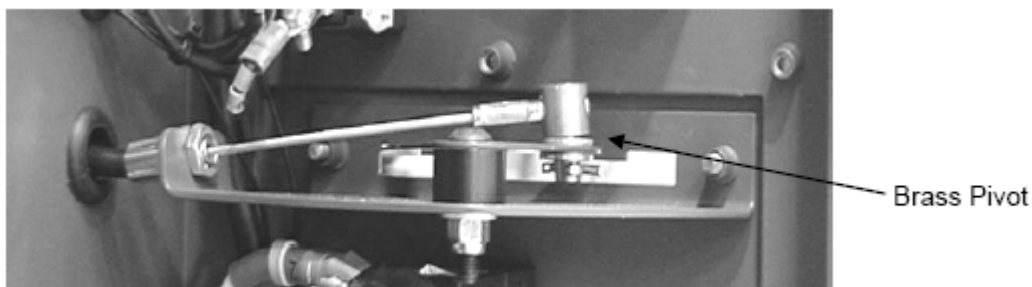

Fig 20 Engine speed control cable - DC panel end - internal view
62.7 With reference to Fig 20, unscrew the cable from the brass pivot and completely remove the inner cable.
- 68.3 Refer to Fig 20, release the inner engine speed control cable locknut and remove the cable from the brass pivot.